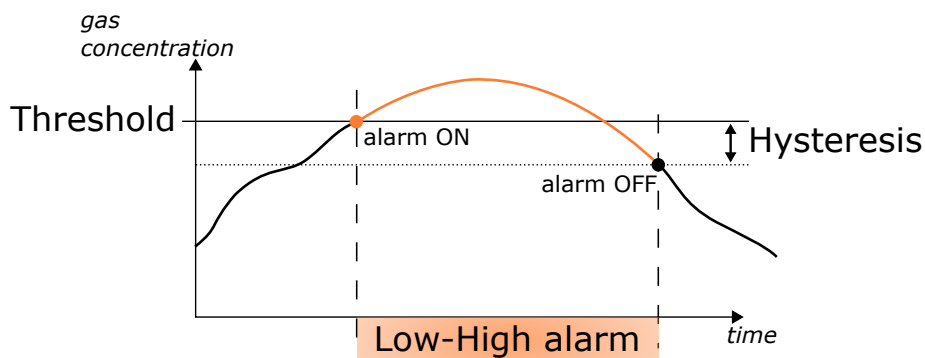

Figure 7.10: Hysteresis behavior when setting the limit type Low-High.
- **L/H**: Limit value switches on when the threshold is exceeded, it is switched off when the threshold - hysteresis is undershot, see Figure 7.10.